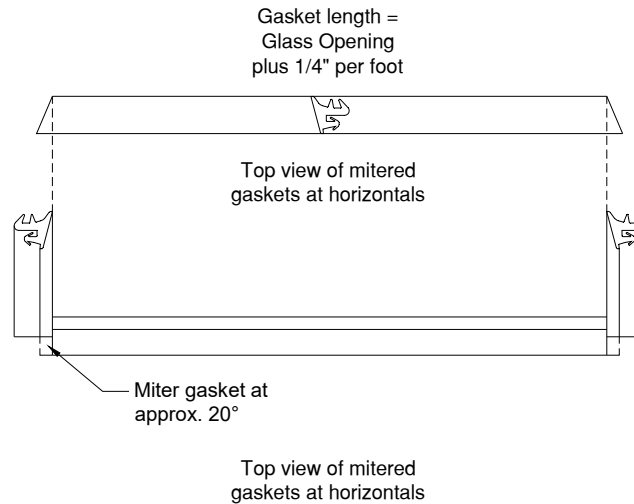

Figure 24: Gasket Cut Guide
11.3.2 Miter the horizontal gaskets per *Figure 24*.
12.7.3 Cut the **FG-5736** Gasket a minimum of 1/4" per foot longer than the D.L.O., to provide adequate compression, and miter the ends of the gaskets at a 20° angle, as shown in *Figure 24 (page 35)*.